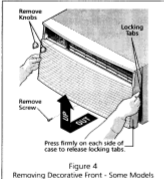
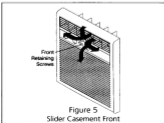

Figure 4
Figure 5
- The cabinet front can be removed for more thorough cleaning. Refer to "Front Installation" in this manual and Figures 4 and 5.
2. Remove knobs by pulling firmly, and then remove dial plate. Remove front retaining screw from the front (see Figure 4 or 5 for screw location, whichever is similar to your model).
3. Press firmly on each side of the metal case close to the front, approximately half way down for Figure 4, or 2/3 the way down from Figure 5 from the top of the front.
2. Position the top of the decorative front on the top flange of the case and align the tabs on the front with the slots in the case. On some models remove the filter to expose the two (2) front retaining screws.
4. Install the front retaining screw (see Figure 4 or 5 for screw location, whichever is similar to your model).